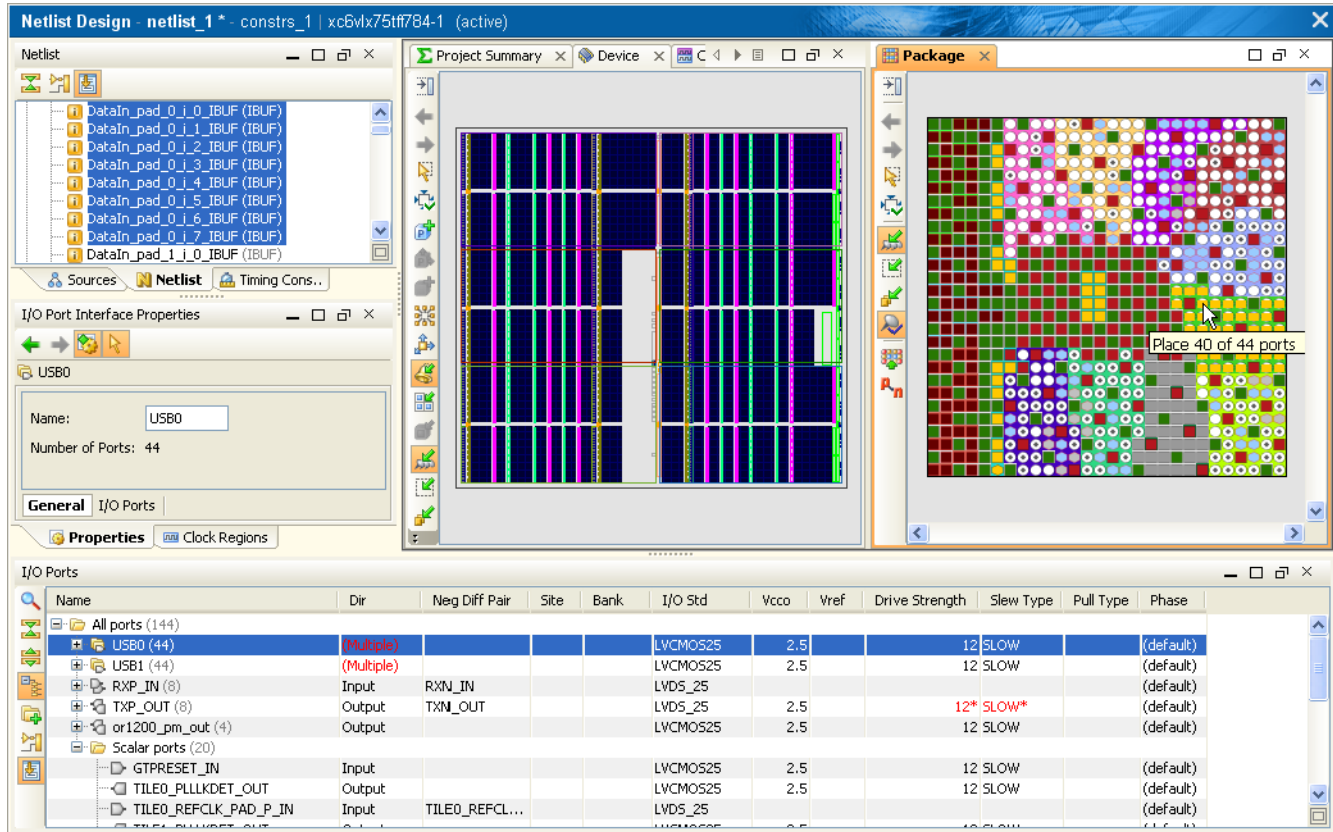

Figure 24: Place I/O Ports in an I/O Bank
- Click **I/O Bank 14** on the right side of the package to drop the I/O Ports, as shown in Figure 24.